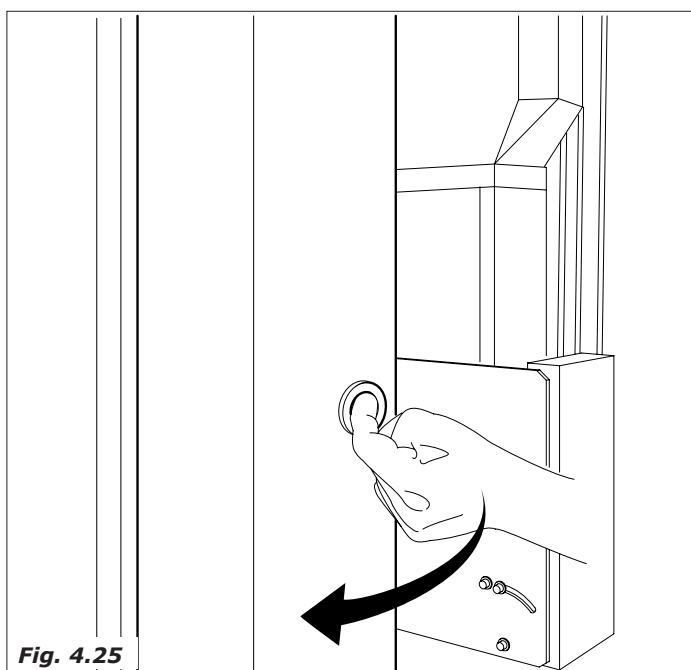

Fig. 4.25
- open the board and coin mechanism protection door (Fig. 4.25)